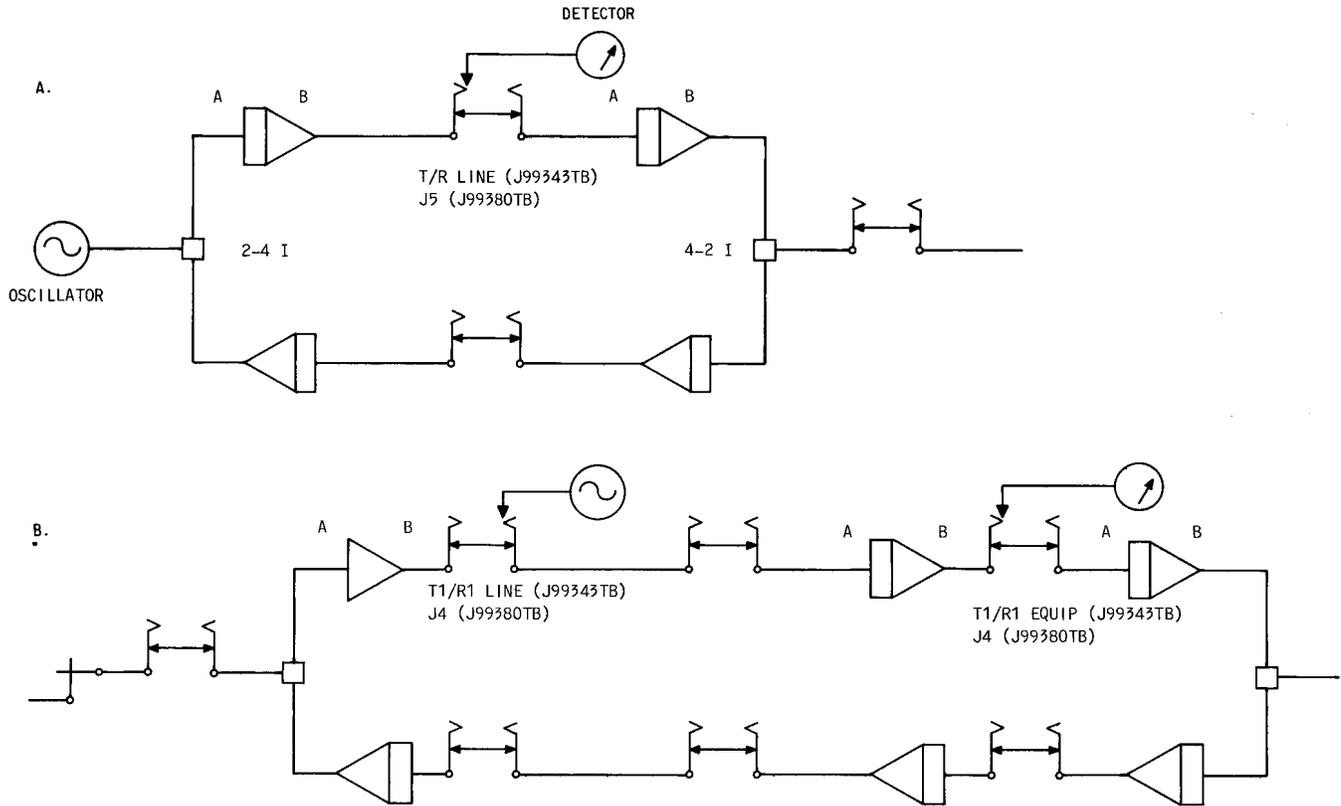

Fig. 21—Oscillator and Detector Connections For Loss Measurements of Typical Circuits
8.28 Figure 21 shows the test access for making loss measurements of typical circuits. Figure 21A contains only 2-4 and 4-2 repeaters; Figure 21B also contains a 4-4 intermediate repeater. Note that the A-side and B-side designations chosen for this example are arbitrary and do not dictate how this type of circuit should be wired.